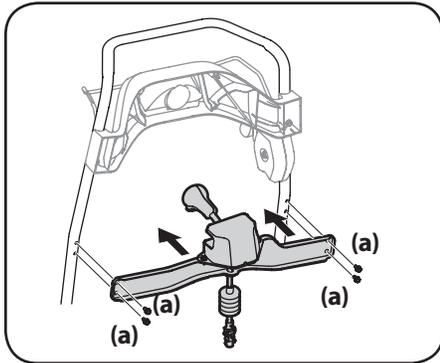

Figure 2-11
2. Using the hex washer screws (a), install the chute rotation control assembly. See Figure 2-11.